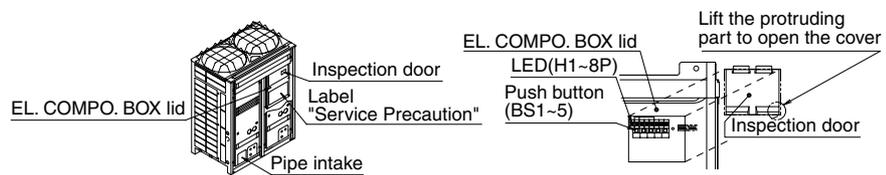
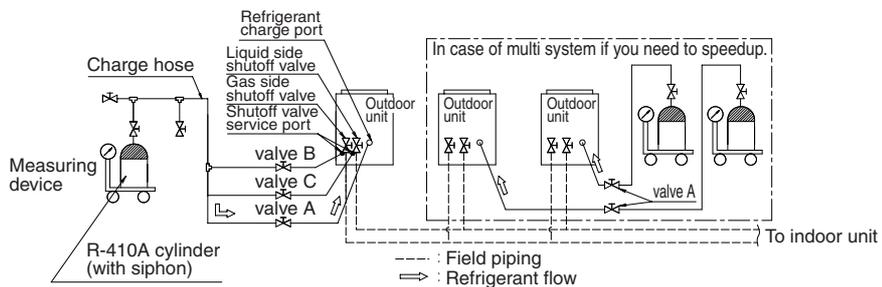

fig 32
fig 33
4. Perform the refrigerant charging operation following [Refrigerant charging operation procedure] as shown in page 153, and charge the remaining refrigerant of the “additional charging amount”. For performing the refrigerant charging operation the push button on the PC-board (A1P) of outdoor unit (In case of multi system master unit) are use. (See the figure 32) In addition, the refrigerant are charged from the refrigerant charge port via the valve A. (See the figure 33)
If you need to speedup in case of multi system, connect the refrigerant cylinders to each outdoor unit as shown in the figure 33.
**STEP1** Open the liquid and gas side shutoff valves (The valve A~C must be closed. The valve A~C means the valves in the figure 33.)